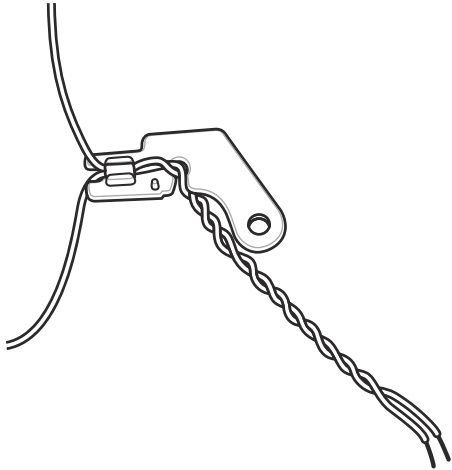

Figure 3-27 *Pre-attach Wire to Right Side Bracket*
2. Ensure the right side bracket is pre-attached to the wire as shown in Figure 3-27.